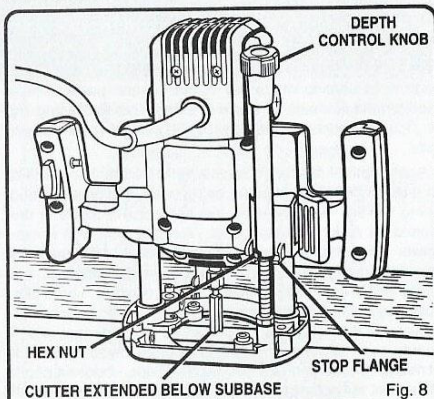

Fig. 8
- Grasp handles and lower router until stop bar contacts depth stop. Release plunge lock release, locking cutter at desired depth of cut. See Figure 8.
See Figure 8.